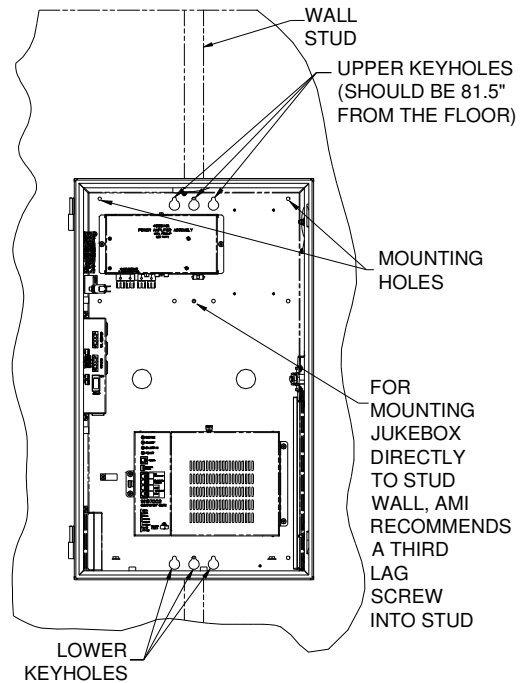

Figure 2-B – Inside View of the Cabinet
2. Install a subpanel or locate a wall stud roughly in the center of where the jukebox will be mounted. See *Figure 2-B*.
3. Install the first 1/4" x 1 1/2" lag screw 80" up from the floor. If not using a subpanel, center the lag screw on a wall stud. This should be on the center line of the jukebox. See *Figure 2-B*.
4. Hang the jukebox cabinet on this lag screw using one of the upper keyholes in the back of the jukebox cabinet (see *Figure 2-B*). Ensure the jukebox cabinet is level and mark the wall for the lower keyhole and the mounting holes in the top right and top left of the cabinet (See *Figure 2-B*).